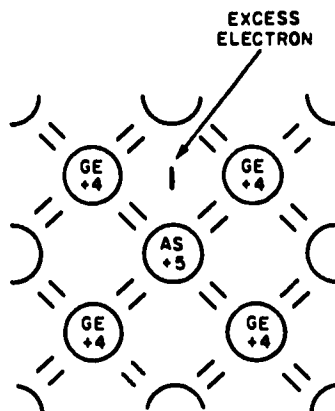

Fig 1-10. Germanium crystal doped with arsenic.
When a pentavalent (donor) impurity, like arsenic, is added to germanium, it will form covalent bonds with the germanium atoms. Figure 1-10 illustrates this by showing an arsenic atom (AS) in a germanium (GE) lattice structure. Notice this arsenic atom in the center of the lattice. It has 5 valence electrons in its outer shell but uses only 4 of them to form covalent bonds with the germanium atoms, leaving one electron relatively free in the crystal structure. Pure germanium may be converted into a **N-type** semiconductor by "doping" it with any donor impurity having five valence electrons in its outer shell. Since this type of semiconductor (N-type) has a surplus of electrons, the electrons are considered **MAJORITY** carriers, while the holes, being few in number, are the **MINORITY** carriers.